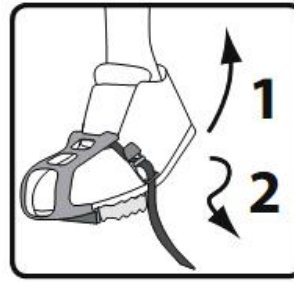

Figure 9
- 1) The feet should be firmly fixed to the pedals. Pull upwards in the strap to tighten and then Tuck it in to keep it in place. see figure 9.